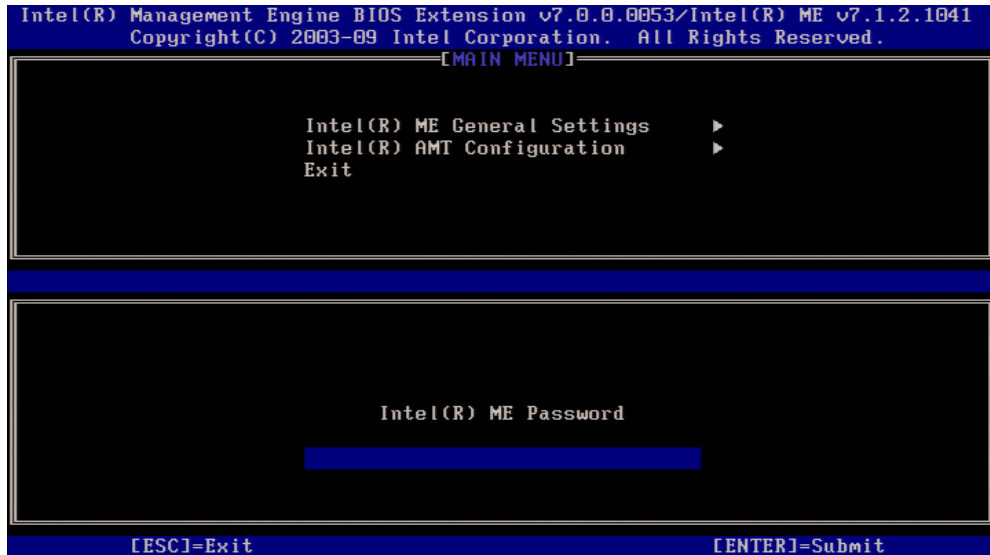

Figure 1. Intel MEBx Password Screen
1. Press **Ctrl-P** during POST to enter Management Engine BIOS Extension (MEBx) Setup (Figure 1). This option is not shown during the HP splash screen but can be displayed during POST if set in F10-Setup.